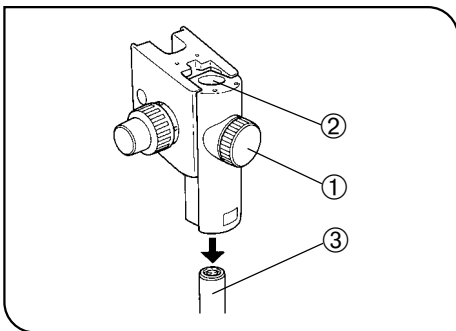

Fig. 4
2 Mounting the Focusing Assembly (Figs. 4 & 5)
1. First loosen the focusing assembly clamping knob ① completely, and while holding the focusing assembly with both hands, insert the pillar ③ into the mounting hole ② from below. (Fig. 4)
2. Lower the focusing assembly until it stops, then tighten the focusing assembly clamping knob ①. (Fig. 4)
★ If the clamping knob ① is tightened while the pillar ③ is not completely inserted into the mounting hole ②, the plate spring supporting the pillar will deform and the pillar will not be able to penetrate into the hole. (Fig. 4)